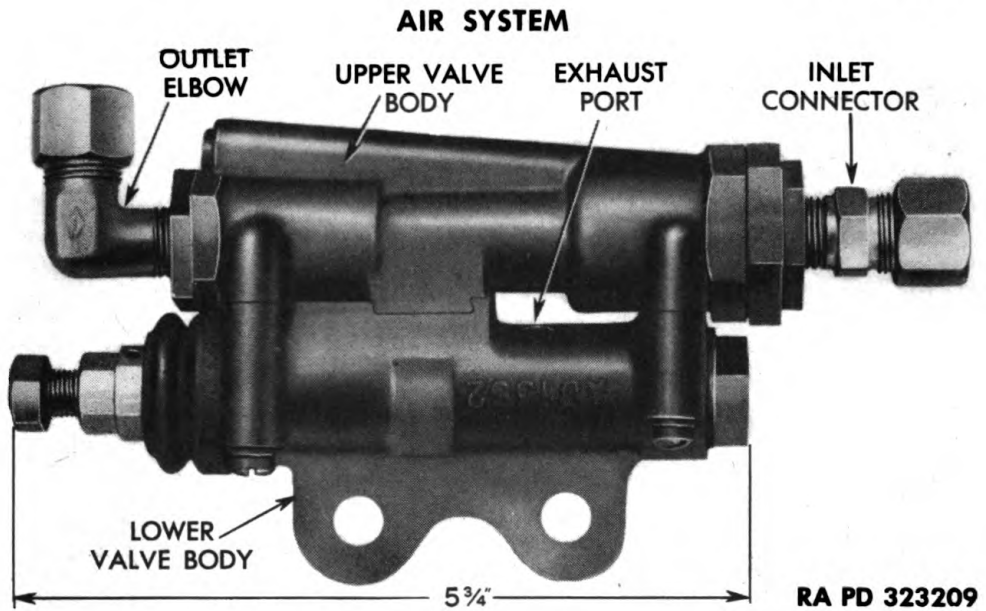

Figure 215 — Clutch Brake Application Valve
a. Description (figs. 215 and 216).
(1) The clutch brake application valve is mounted to the left side of clutch selector unit housing that is located below driver's seat. It is a manually operated air valve, and works off clutch controls. The valve consists of an upper and a lower body which are held together by four machine screws. The lower valve body contains the actuating mechanism, and the upper valve body the air controls. The actuating mechanism includes an operating shaft that has an adjusting cap screw with lock nut at one end, and a finger at the other end. The finger is attached to the operating shaft by a cap screw and lock washer, and extends up into the upper valve body to actuate the inlet and exhaust valves. A compression spring returns the operating shaft to the off position.
(2) The air controls, contained in the upper valve body, include an exhaust valve on one side of the operating shaft finger and an
(1) **REMOVE OUTLET ELBOW AND INLET CONNECTOR** (fig. 215). Unscrew elbow and connector from plugs.
f. **Adjust.** Push operating shaft into valve body, and let it snap back, to be sure it comes back against stop. Turn adjusting screw in operating shaft until distance from head of screw to head of return spring plug at opposite end is $5\frac{3}{4}$ inches (fig. 215). Tighten lock nut, and recheck dimension.